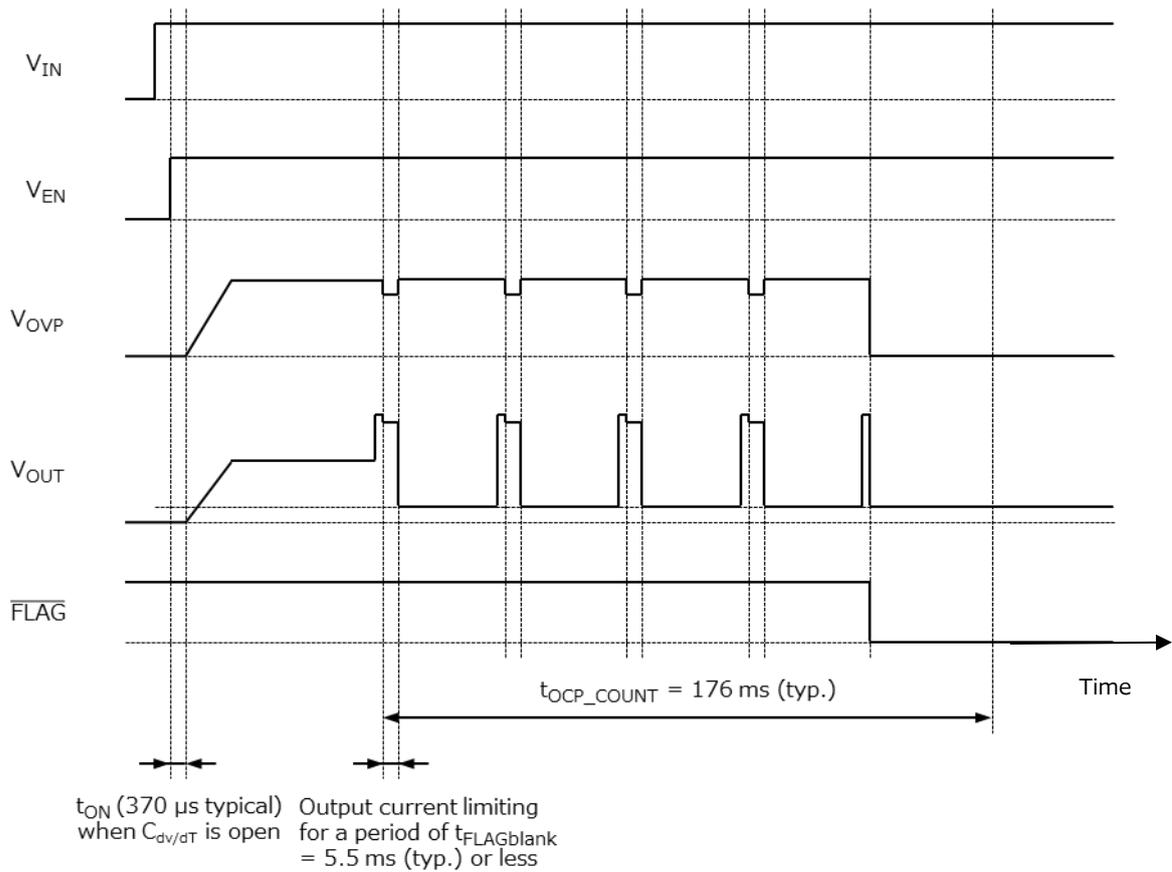

Figure 6.8 Example of an OCP operation in the event of a repetitive pulsed overcurrent condition
2. After five overcurrent pulses (< 5 ms) during $t_{\text{OCP_COUNT}}$	$t_{\text{OCP_COUNT}}$: Overcurrent flag-blanking time (Figure 6.8)